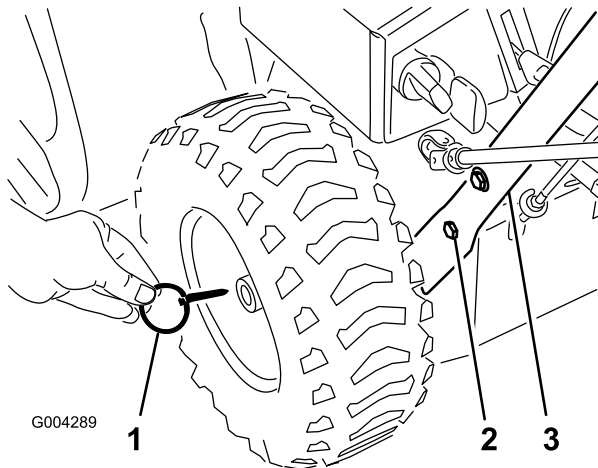

Figure 3
2. Remove the axle pins from both wheels and slide the wheels outward on the axle approximately 1 inch (2.5 cm) (Figure 3).
5. Align the holes in the left side of the handle assembly with the holes in the left side plate, and secure the handle with 2 cap screws and Belleville washers until they are finger tight (Figure 3).